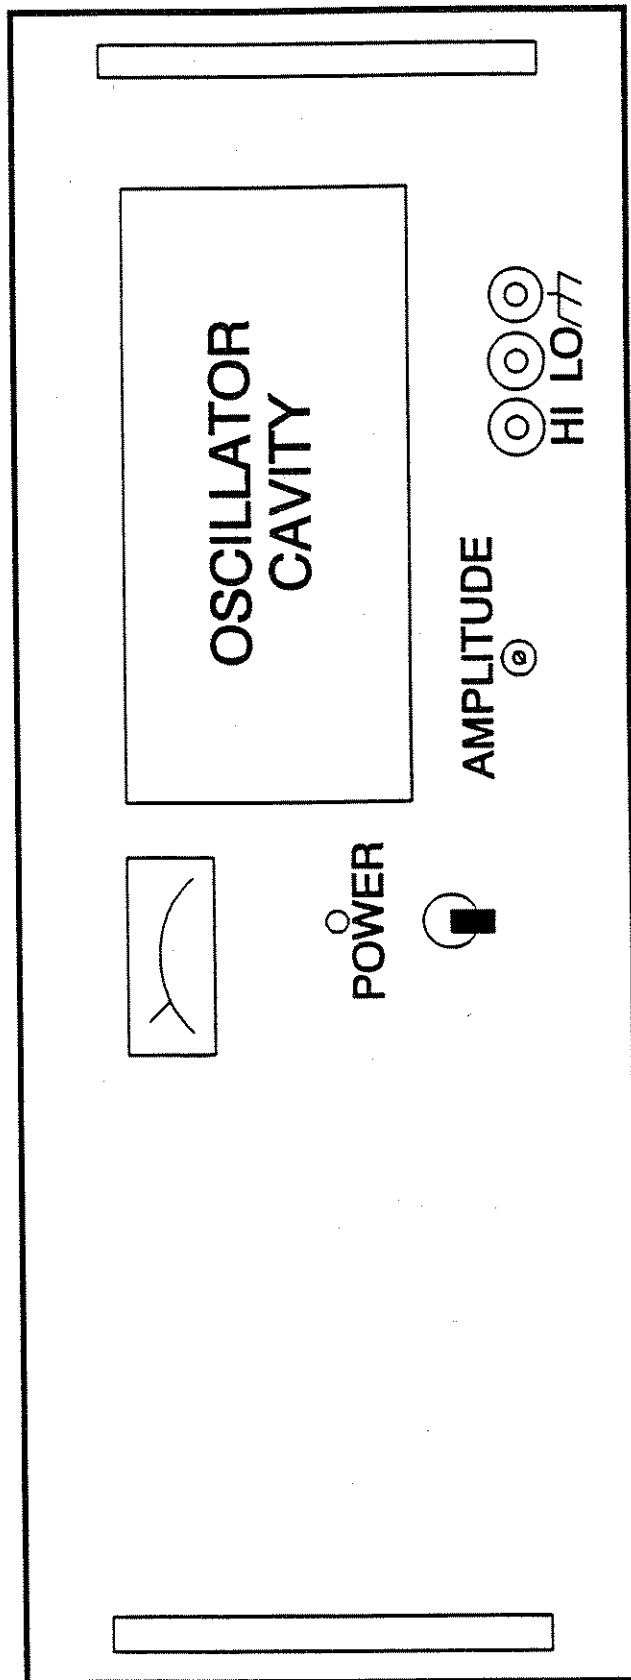

Figure 2-9. Model 501SX (Front View)
1. Before installing the power source, verify that the input and output voltage ranges are compatible with the available utility power and the output voltage application. Refer to Figures 2-9 and 2-10, Table 2-1, and the unit serial number tag for model number information.